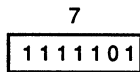

**Figure 16-5. Register Indirect with Index Effective Address**
**EA Calculation:** If L = 0, contents of Xm are sign extended from word to long word. If L = 1, the contents of Xm are treated as a long word. Then, the contents of Xm are multiplied by 1, 2, 4, or 8, depending on Sf. The result is added to the contents of Rn and a displacement. Sd specifies the length of the displacement as in the register indirect mode. See Figure 16-5.